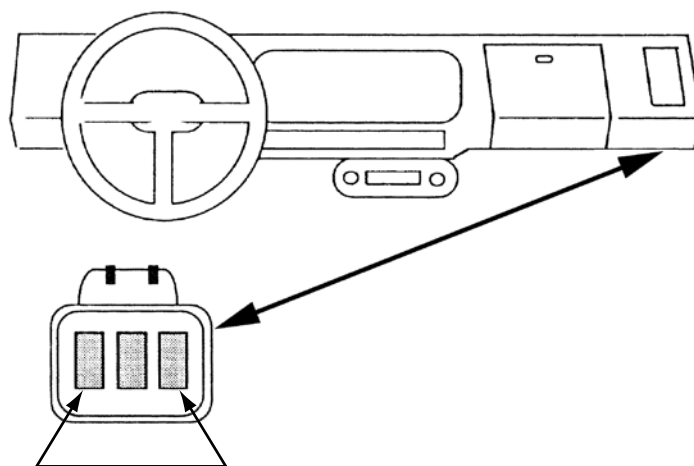
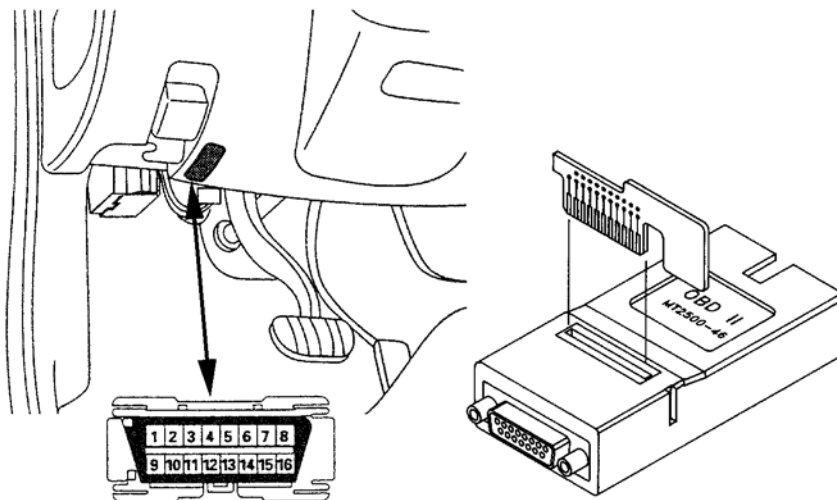
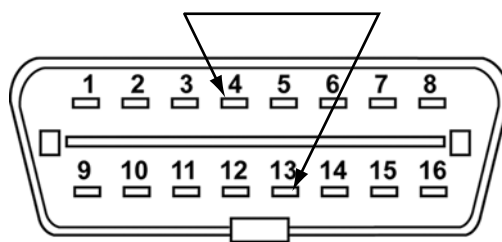

Figure 10-32 Isuzu vehicles with orange SRS diagnostic connector and jumper pins
Figure 10-33 1996 and newer Isuzu vehicles with 16-pin OBDII style connector location
Figure 10-34 1996 and newer Isuzu vehicles with 16-pin OBDII style connector and jumper wire
- Type 03, see Figure 10-32 Figure 10-33, and Figure 10-34 and Table 10-9 on page 118
Start codes by:	With ignition switch on, jumper two terminals in a diagnostic connector together. Only current codes will be flashed. (Figure 10-32, Figure 10-33)